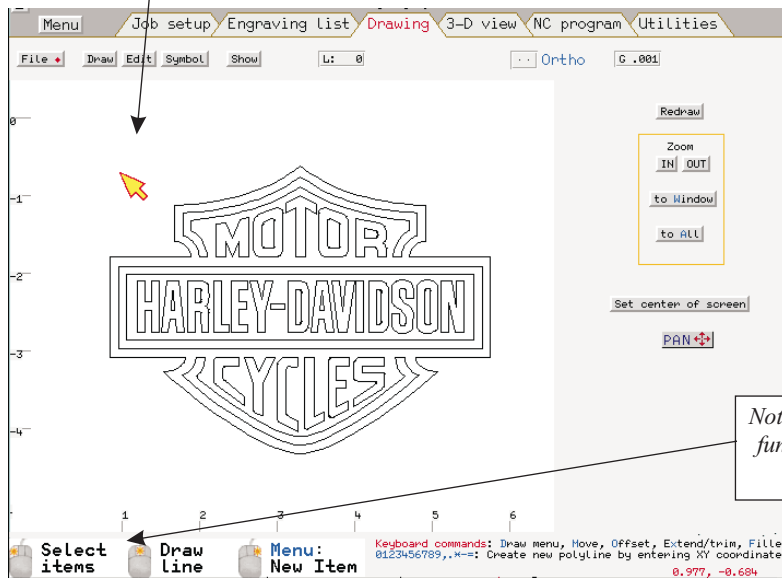
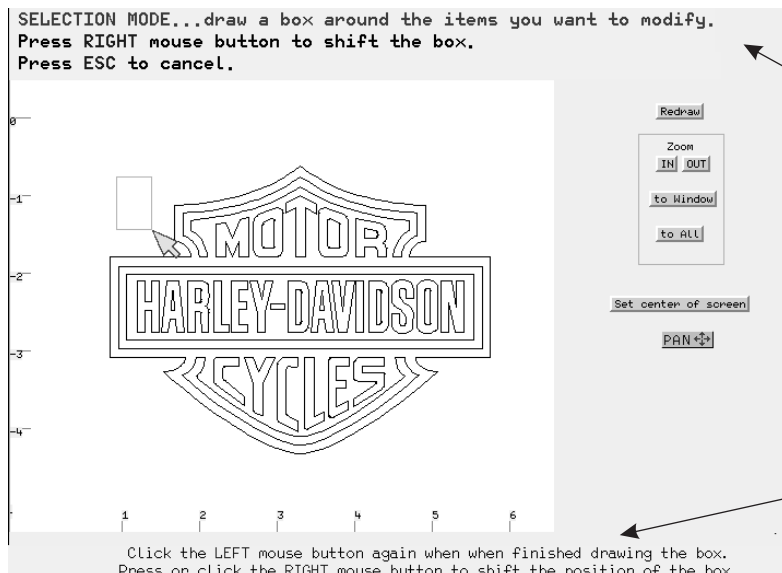

Figure 1-15
Figure 1-16
- 2) Draw a **selection window**. To do this, move the mouse to an empty area of the drawing. When the mouse is a **plain arrow** (as in Figure 1-15) you can click the mouse and draw a window around the items you want to select (Figure 1-16). This causes MillWrite to switch to its **Selection Mode**, even if you don't select anything.